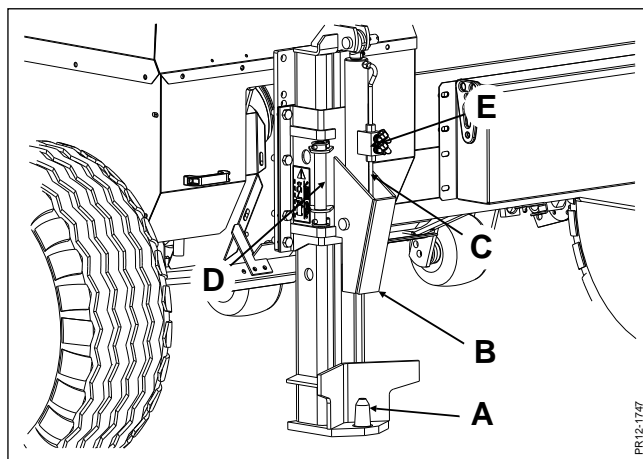

Fig. 6-12
**Fig. 6-12** The hydraulic hitch **B** has been fitted with a tow hitch **A**, that can be hydraulically raised and lowered by the double acting cylinder **C**. The hoses from the cylinder **C** must be connected to a vacant valve on the valve block. The hydraulic hitch **B** is then operated using one of three toggle switches located at the front of the control box.
**Fig. 6-12** The machine must be reversed up to the drawbar of the trailer in cases where a trailer is being connected. The tow hitch **A** must be lowered to pick up the hitch eye of the trailer. The trailer is raised using the hydraulic cylinder **C** until it reaches its block position. A hydraulic lock valve **E** fitted to the cylinder **C** ensures that the hitch eye **A** remains in its raised position. If the trailer has been fitted with a connector for lighting and hoses for tipping and braking, these must be fitted subsequently.
**IMPORTANT:** When driving on public roads with a trailer connected to the hydraulic hitch **B**, the locking pin **D** **MUST** be removed from its holder and be placed through the frame on the hydraulic hitch **B**, so that hitch eye **A** is mechanically locked; see fig. 6-12. This must be done in order to comply with the applicable road traffic legislation